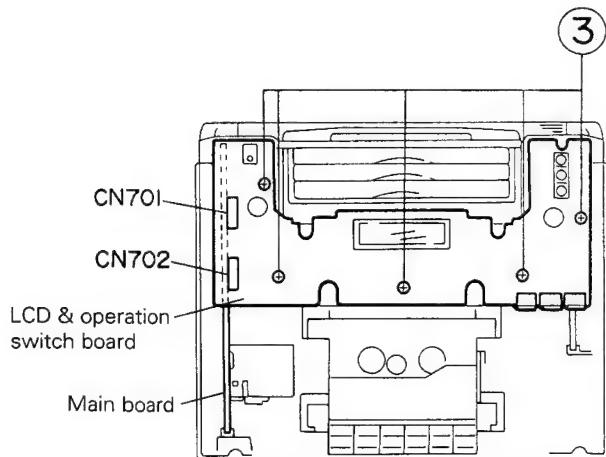

Fig. 5-3
■ LCD & operation switch board (Refer to Fig. 5-3 to 5-5.)
2. Remove five screws ③ retaining the LCD & operation switch board.